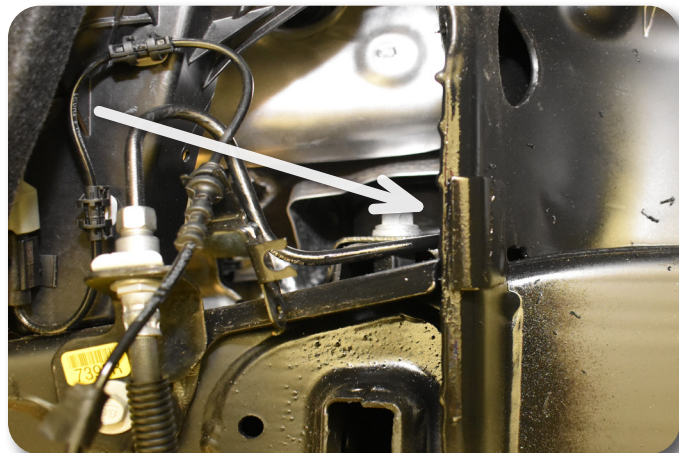

Figure 15
19. The new replacement control arm assemblies have a larger profile than the OEM assemblies. They are also designed with a wider range of available travel. Due to these unique differences, the tab on the side of the strut bucket must be removed to avoid interfering with the proper function of the new control arm assembly. Cut the tab from the side of the strut bucket as shown in Figure 15.